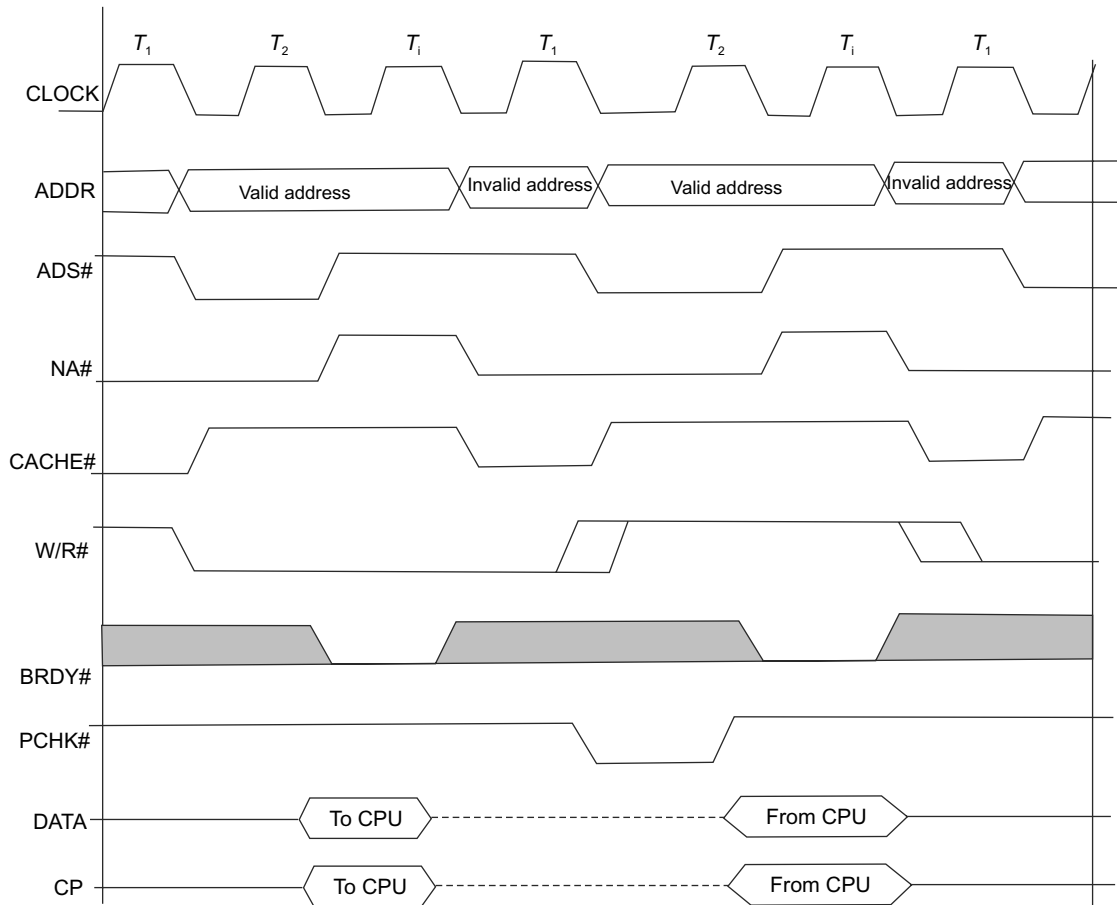

Fig. 12.30 Single transfer cycle of Pentium processor
In a single transfer read or write cycle, 8 bits, 16 bits, 32 bits or 64 bits of data are transferred to or from the Pentium processor. When the Pentium processor holds CACHE# line at logic level high, it indicates that no line fill operation will be performed. Figure 12.30 shows the single transfer cycle of Pentium processor.
It is clear from Fig. 12.30 that a no-wait single cycle transfer takes at least two CLK cycles. The Pentium processor starts a bus cycle by asserting the Address Status Signal (ADS#) during the first clock pulse (T₁) as depicted in Fig. 12.30. The Address Status (ADS#) output signal determines a valid bus cycle and address will be available on the cycle definition pins and the address bus. If the CACHE# output signal is high, the bus cycle will be a single transfer cycle.
The timing diagram of the parity check (**PCHK#**) output signal and the data parity input are shown in Fig. 12.30. The Pentium processor drives the Data Parity (DP) and returns to the Pentium processor in the same clock as the data. After two clock pulses from **BRDY#** are returned for reads with the results of the parity, the **PCHK#** becomes low.